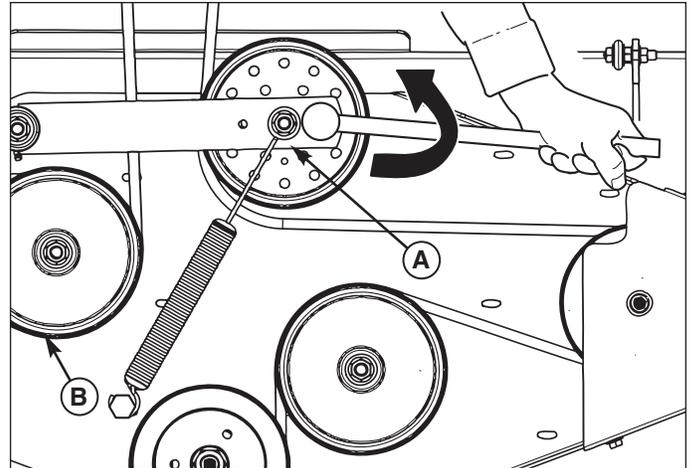

Figure 26. Mower PTO Belt
1. Make sure the V-side of the belt runs in the pulley grooves (Figure 26).